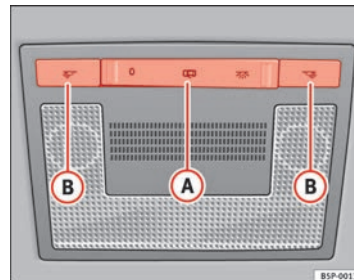

Fig. 79 Interior roof trim:
Press the corresponding button ⇒ Fig. 78 (B) and ⇒ Fig. 79 (B) to switch on the reading light.